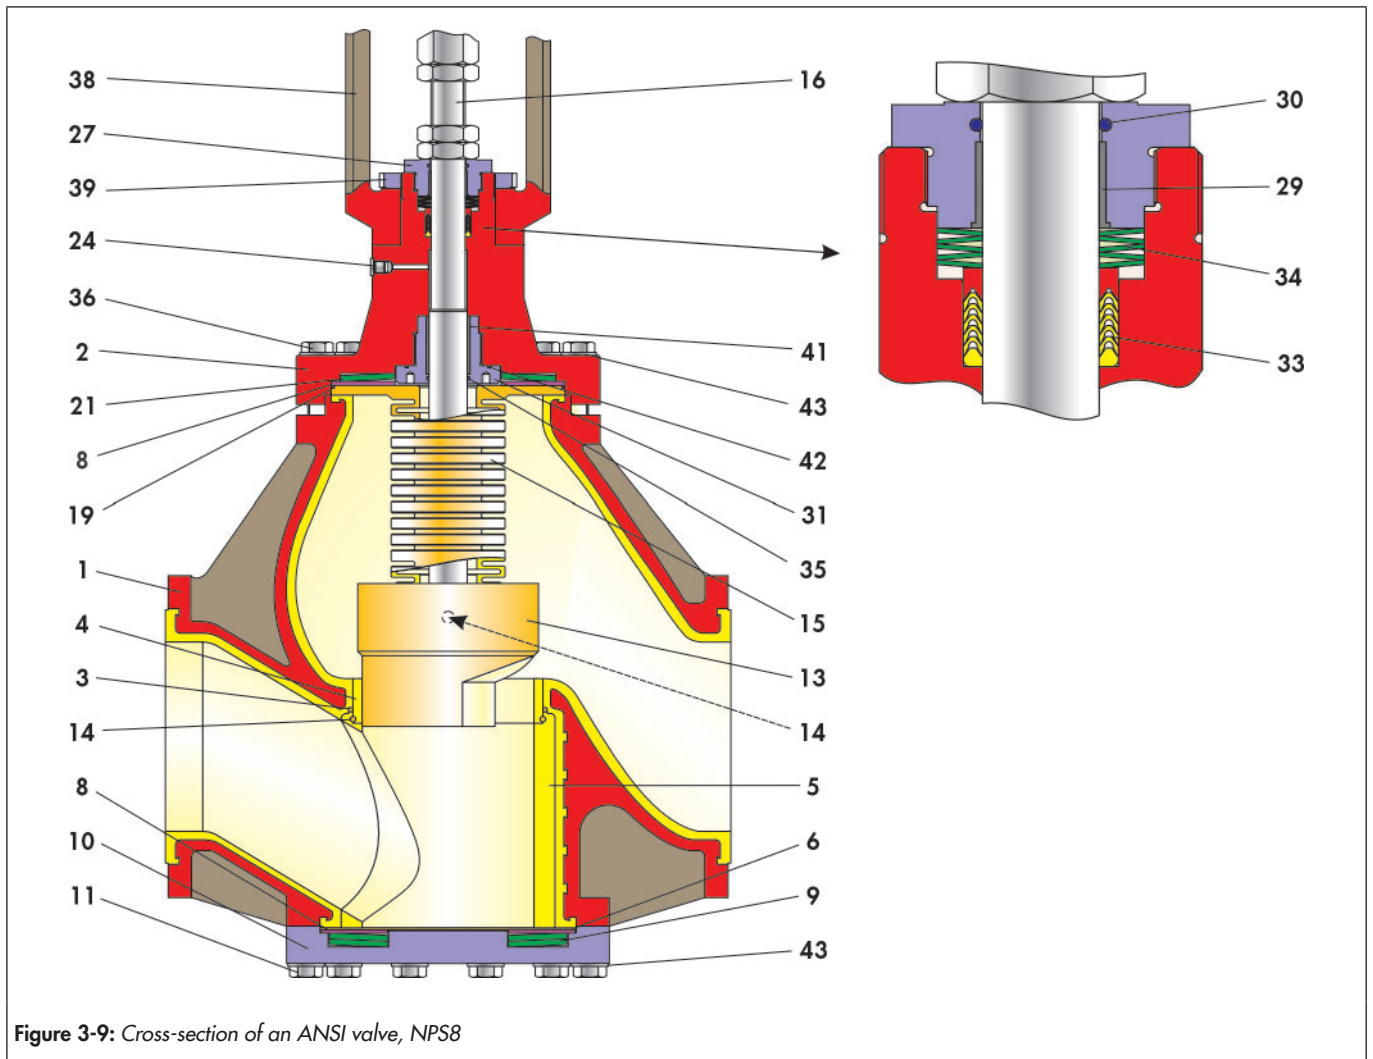

Figure 3-9: Cross-section of an ANSI valve, NPS8
- ⇒ Make sure that the passage opening in the spacer (5) aligns with the inlet opening of the valve.
- ⇒ With a 5 mm drill bit, drill diagonally approx. 10 mm deep into the spacer (5) from the sealing surface.
- ⇒ Secure the spacer against twisting with a piece of PTFE cord (14) inserted into this borehole.
- ⇒ Lay the PTFE washer (6) on the spacer (5).
- ⇒ Place the thrust washer (8) on the PTFE washer (6).
- ⇒ Insert the spring washers (9). For the position of the spring washers, see Figure 3-9.
- ⇒ Carefully place the bottom flange (10) on the body.
- ⇒ Fit the washer (6), thrust washer (8) and spring washers (9) centrally in the bottom flange.
- ⇒ Tighten the screws (11) with the washer (43) in the valve body. Tighten the screws evenly in a criss-cross pattern.
- ⇒ Push the plug (13) onto the bellows (15).
- ⇒ Secure the connection between the plug and bellows with a PTFE cord (14) inserted as far as possible.
- ⇒ Place the bonnet flange (2) on a clean surface at working height so that the stem guide is easy to reach.
- ⇒ Insert the distance bushing and V-rings and lock ring of the V-ring packing (33). For the arrangement of the packing rings, see Figure 3-9.
- ⇒ Insert the set of spring washers (34) into the provided hole. Arrangement of the spring washers, see Figure 3-9.
- ⇒ Insert the O-ring (30) into the inner groove of the stuffing box (27).
- ⇒ Press the upper bearing bushing (29) into the bottom part of the stuffing box (27).
- ⇒ Grease the stuffing box (27) on the thread.
- ⇒ Screw the stuffing box (27) into the upper thread of the bonnet flange (2), the outer groove of the stuffing box is still visible.
- ⇒ Insert the spring washer (21), thrust washer (8) and O-ring (19) in the bonnet flange (2). For the arrangement of the components, see Figure 3-9.
- ⇒ Screw in the locking screw (24).